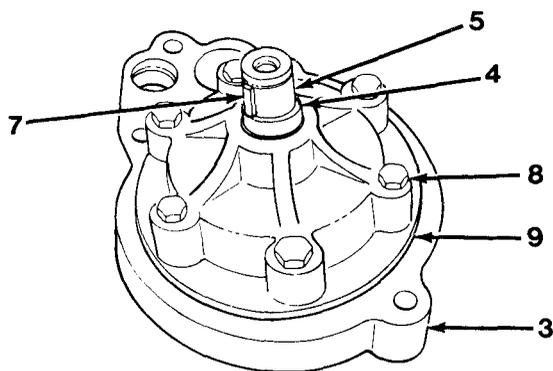

Figure 11-2
2. Remove snap ring (4) from shaft (5).
3. Using a puller, remove pump drive gear (6) from shaft (5).
4. Remove woodruff key (7) from shaft (5, Figure 11-2).
5. Remove second snap ring (4) from shaft (5).
6. Remove six capscrews (8).